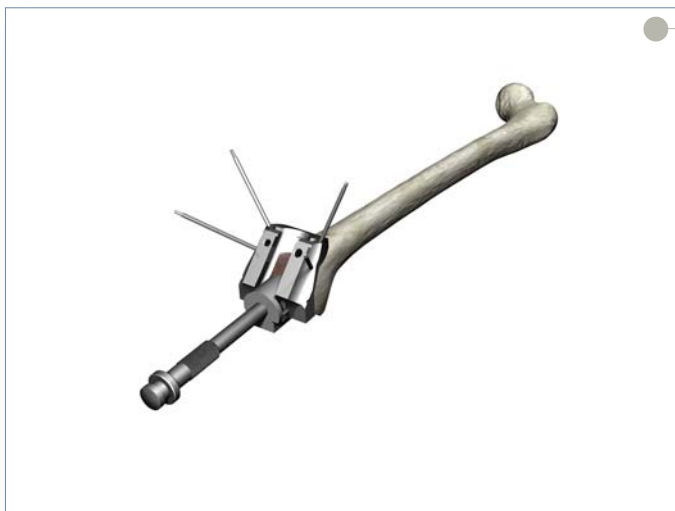

Figure 25
- ▶ Using a mallet impact the compactor until it reaches the end-stop and is fully seated in the Notch Block (Figure 25).